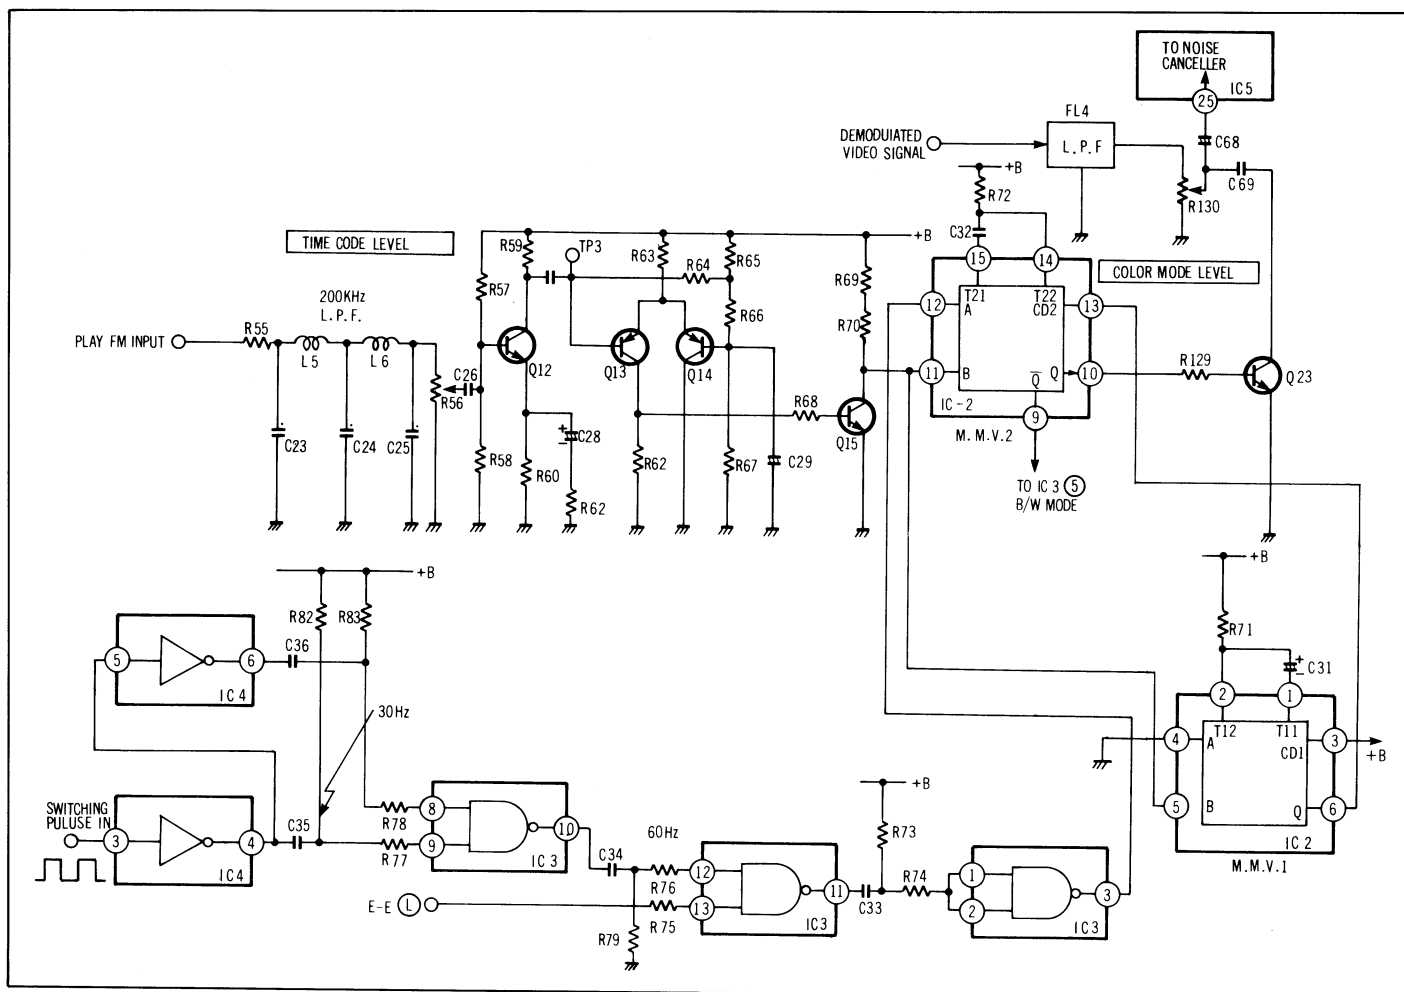

Figure 2-103
The P.B. RF signal from P301-(4) is supplied to a Low Pass Filter (L5, L6, C23, C24 and C25) through Q1, Q8 (Amp) and Q9 (Buffer). This filter network passes signals under 200 kHz, which is primarily the time code signal. (See Fig. 2-103 and 104).
One output of M.M.V2 (IC2 Pin (10)) turns Q23 on during the time code signal period to filter the 4.5 MHz r.f. beat through C69 (See Fig. 2-103).